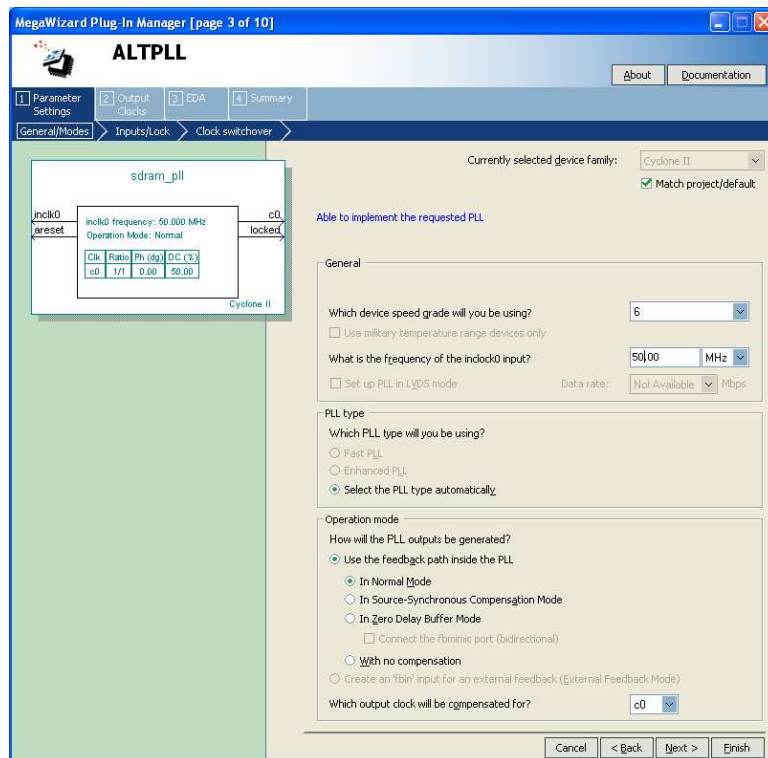
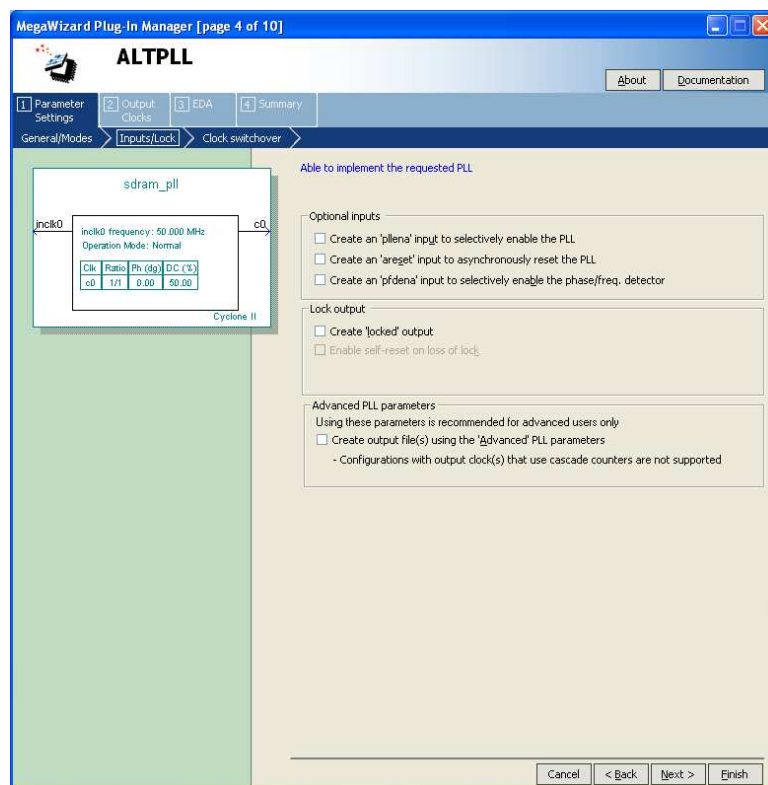

Figure 13. Define the clock frequency.
Figure 14. Remove unnecessary signals.
3. In Figure 13, specify that the frequency of the *inclock0* input is 50 MHz. Leave the other parameters as given by default. Click Next to reach the window in Figure 14.